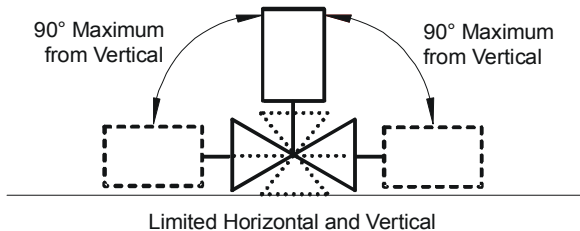

Figure 1: H96 Mounting Positions
6. The H96 valve may be mounted on a horizontal manifold with the solenoid coils pointed up (vertical) or in any position not exceeding 90° from the vertical. The valve may also be mounted on a vertical manifold in any position around its axis (see Figure 1). Do not install the solenoid coil upside down. Install vertically wherever possible.